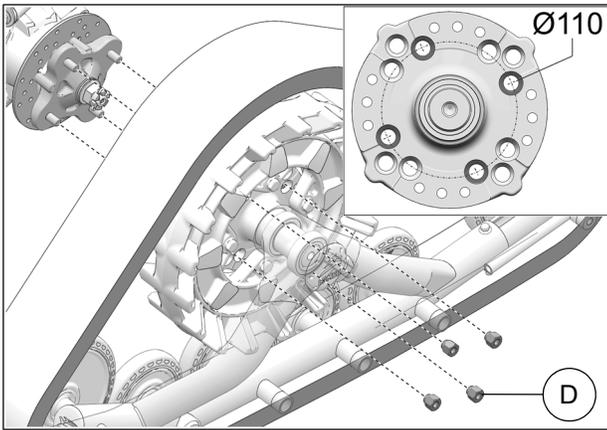

Fig. 11
9. Secure undercarriage to rear hub using the lug nuts (D) provided. Use bolt circle $\text{Ø}110$ mm. See Fig. 11